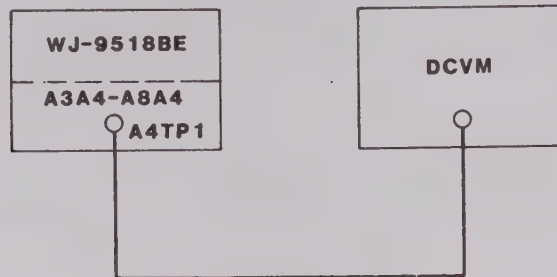

Figure 4-5. 2nd LO Performance Test, Equipment Connections
1. Connect the test equipment as illustrated in **Figure 4-5**.